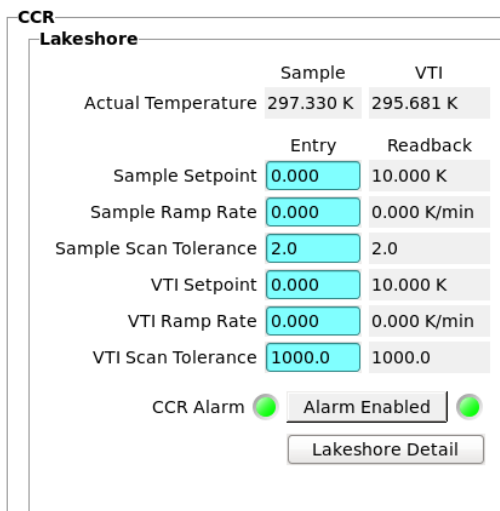

Figure 1. Lakeshore controls on the dashboard.
- a. Disable alarm by clicking the “Alarm Enabled” button in the Lakeshore box on the dashboard (Fig 1).
- q. Re-enable alarm by clicking the "Alarm Disabled" button in the Lakeshore box on the dashboard (Fig 1).